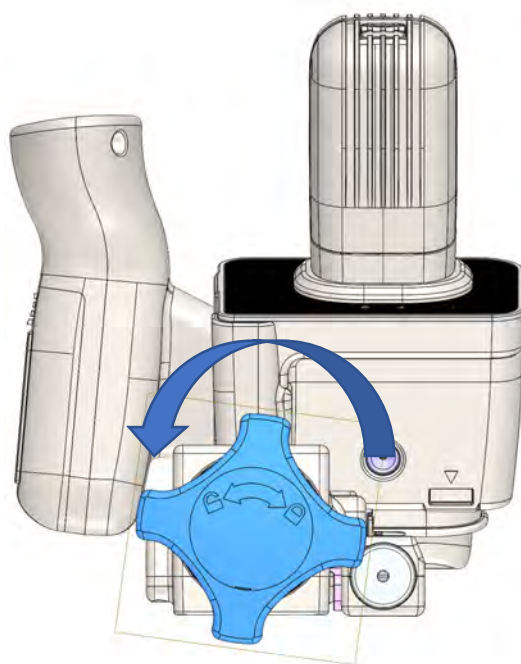

Figure 21. Unlocking the Aiming Arm Brake.
2. With the right hand, release the Aiming Arm lock by rotating the Aiming Arm Brake Knob to the left and adjust the CERTA Aiming Reticle to the desired needle access location (Figure 21).